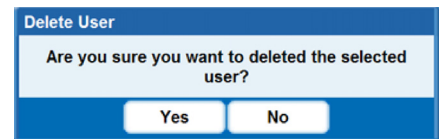

FIGURE 4-13 DELETE USER WINDOW
1. Select the user that you wish to remove from the **Users** window. See *Figure 4-13*.